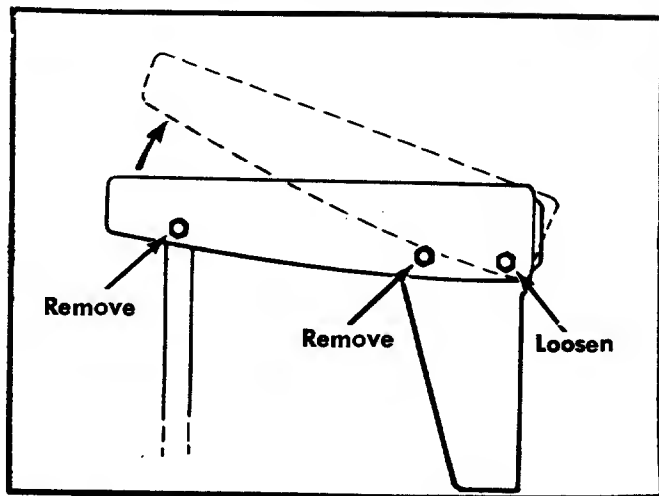

FIGURE 3. HOOD RIGHT SIDE
Step 3. Remove the two bolts and nuts on the right hand side of the hood and loosen the front bolt and nut as shown in figure 3 and raise the hood.